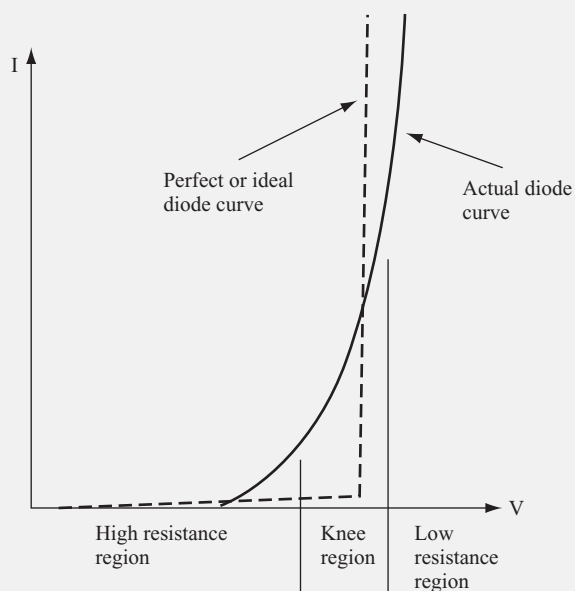

FIGURE 2.16
The V-I curve (or diode characteristic curve) is repeated in Figure 2.16 with three important regions marked on it.
- 10** Refer back to the diagram of resistance regions shown in Figure 2.16.